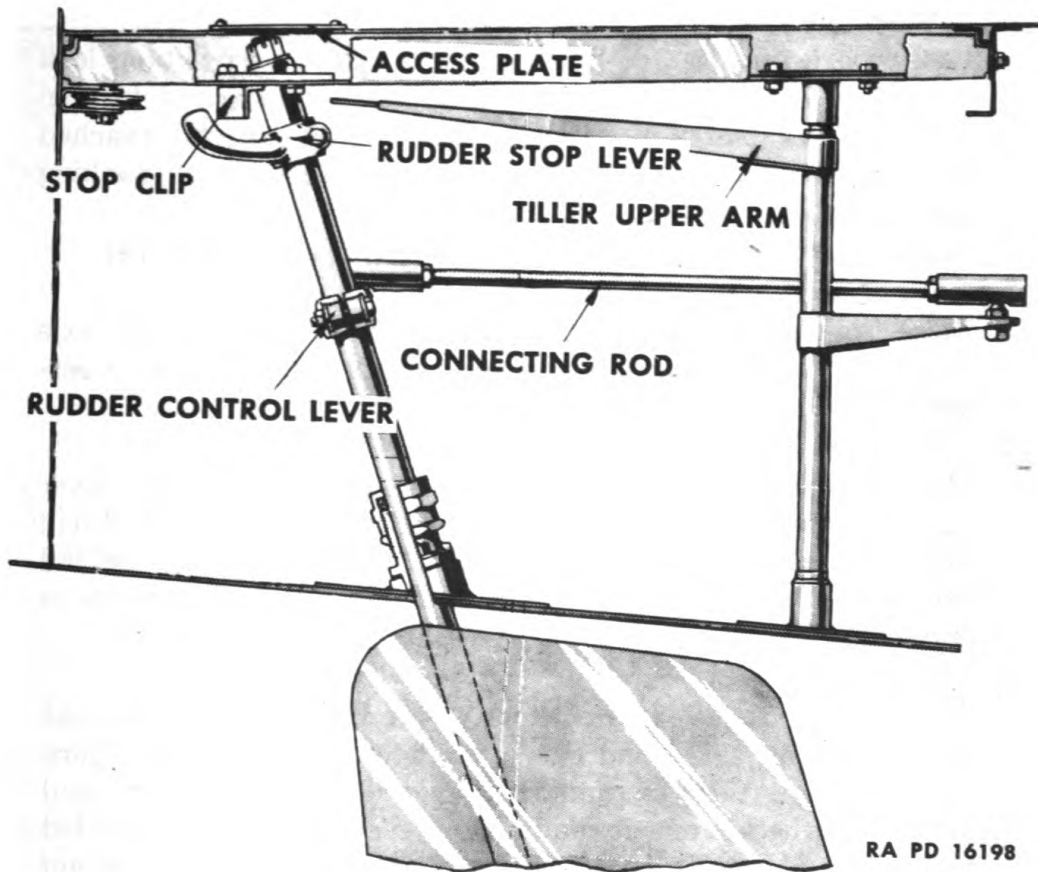

Figure 178—Rudder Linkage at Stern
b. Rudder Removal Procedure (Fig. 178)**(1) Loosen stop lever and rudder control lever**
c. Rudder Installation Procedure (Fig. 178)**(1) Install rudder**